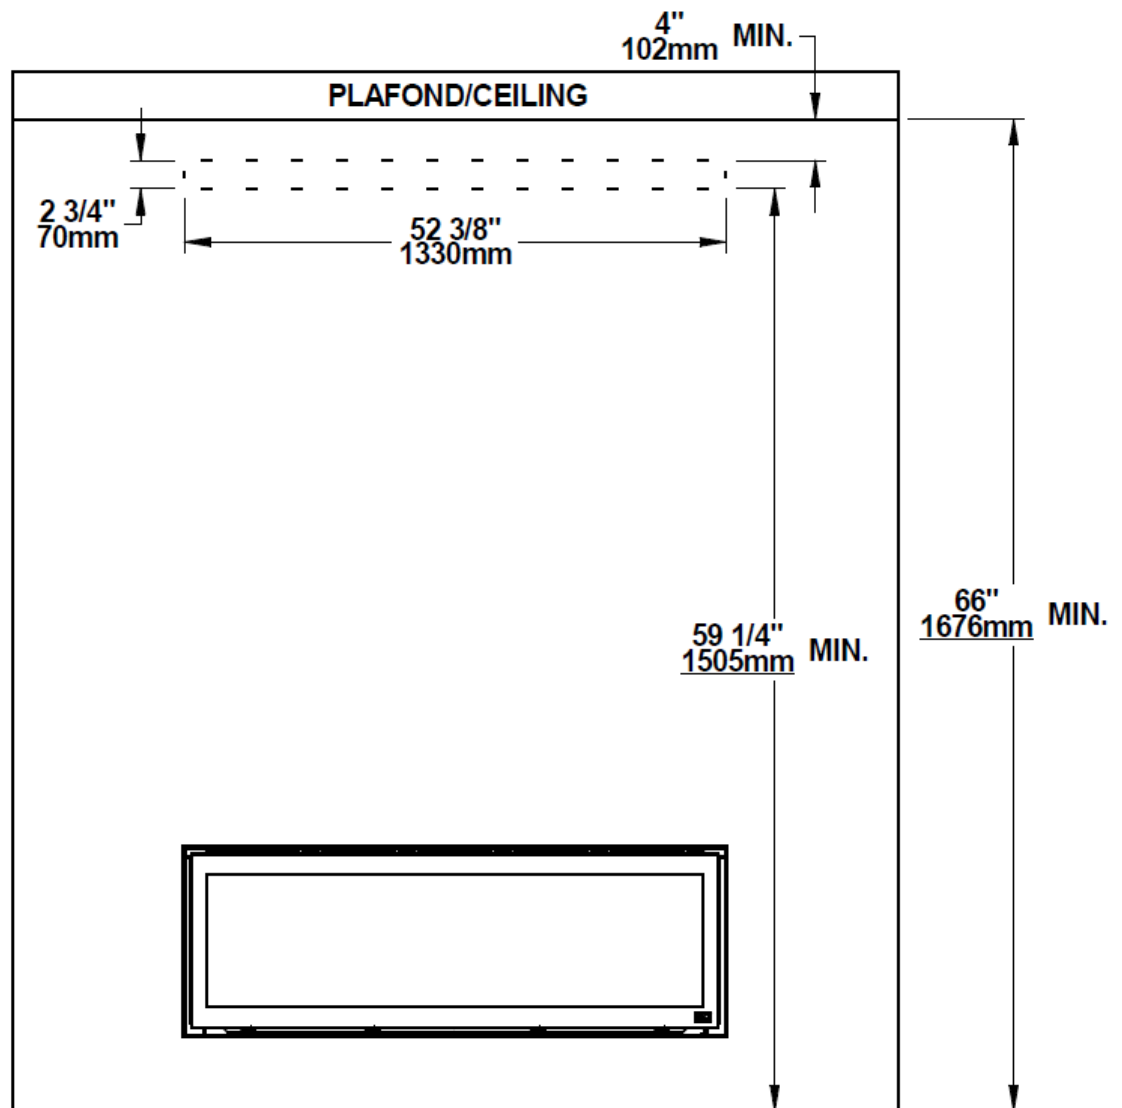

Figure 7 : Hot air vent kit positioning to reduce ceiling height
Determine the location of the hot air vent (A) above the fireplace as shown in Figure 7. The framing and entire front of the fireplace enclosure shall be made of non-combustible material.